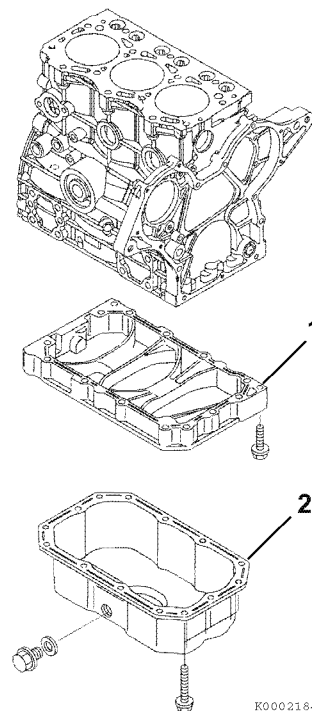

Figure 6-45
2. Remove the oil pan (2, **Figure 6-45**).
3. Remove the crankcase extension (1, **Figure 6-45**) if equipped.